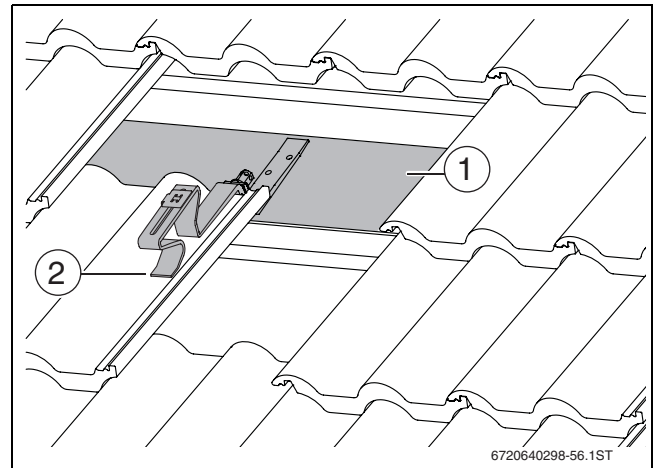

Fig. 21 Securing rafter anchors on the board/plank
- ▶ Where required, secure boards/planks with adequate load-bearing capacity to the rafters (→ Fig. 21 [1]). Where required, remove counter battens from this area.
- ▶ Lay the front support (→ Fig. 21 [2]) on the roof tile so that it lies in a tile valley when subjected to loads.